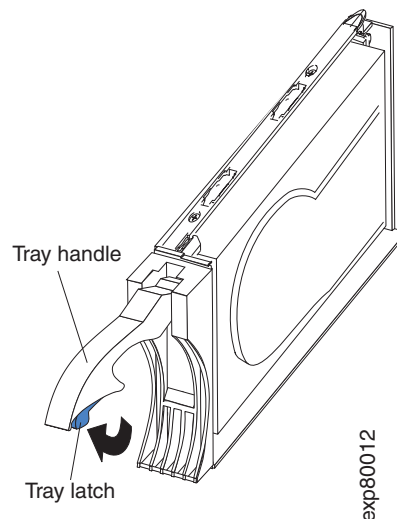

Figure 35. E-DDM FRU handle
- b. Pull the handle on the tray out so that it is in the open position, as shown in Figure 35.
- a. Release the latch on the E-DDM FRU by pressing on the inside of the bottom of the tray handle, as shown by the arrow in Figure 35 on page 71.